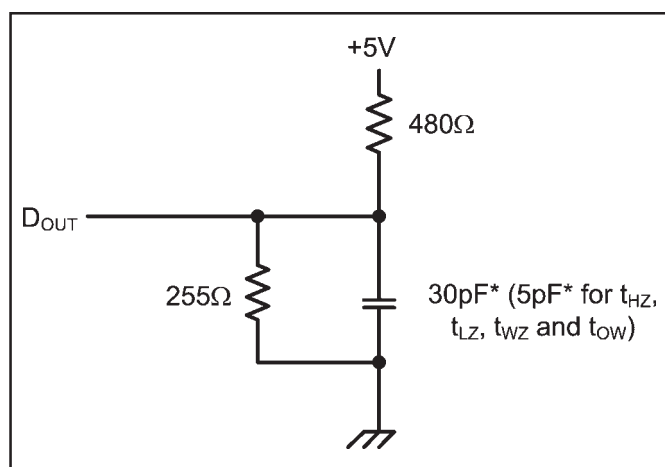

Figure 1. Output Load
- 7. Transition is measured $\pm 200mV$ from steady state voltage prior to change with specified loading in Figure 1. This parameter is sampled and not 100% tested.
- 12. Transition is measured $\pm 200mV$ from steady state voltage prior to change with specified loading in Figure 1. This parameter is sampled and not 100% tested.
Output Load	See Figures 1 and 2